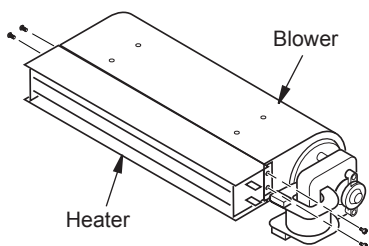

Figure 13 - Removing Heater from Blower
9. Replace blower or heater. Replace screws removed in step 7 (see Figure 13, page 10).